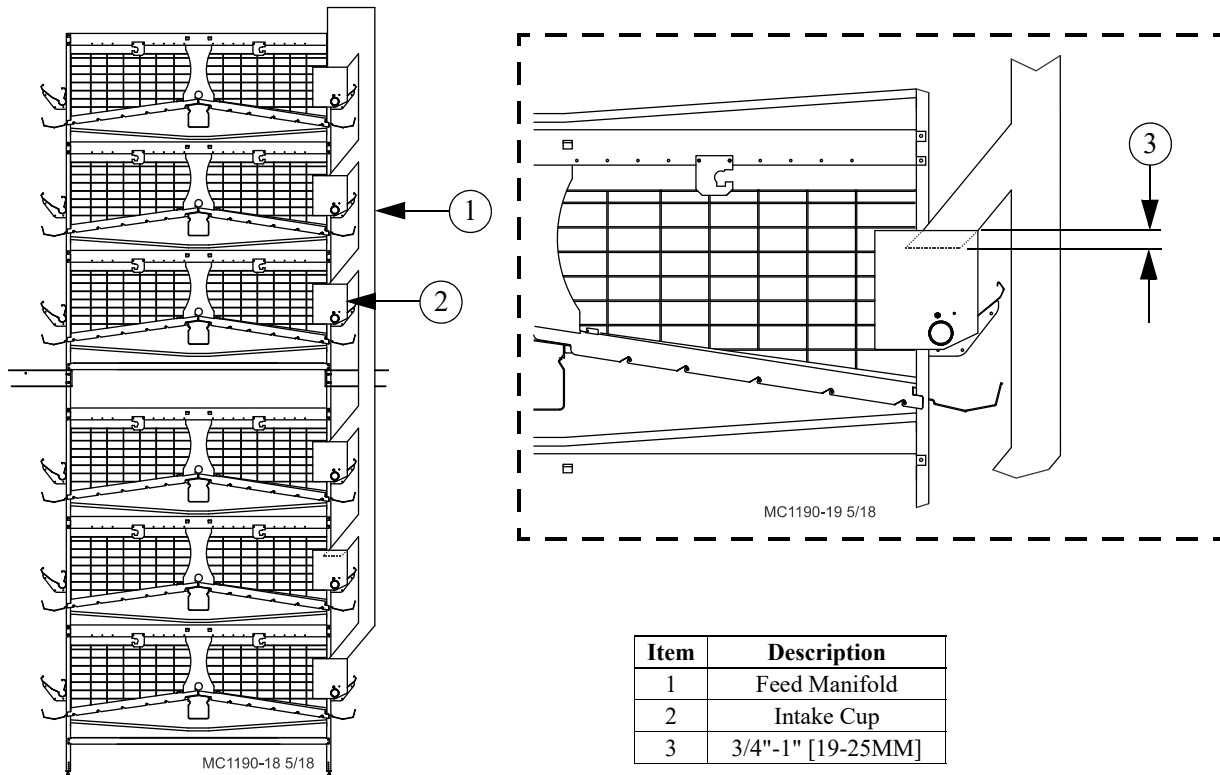

Figure 1. Feed Manifold Installation
2. Install the Feed Manifolds with the drop-outs in the Intake Cups, as shown in Figure 1.